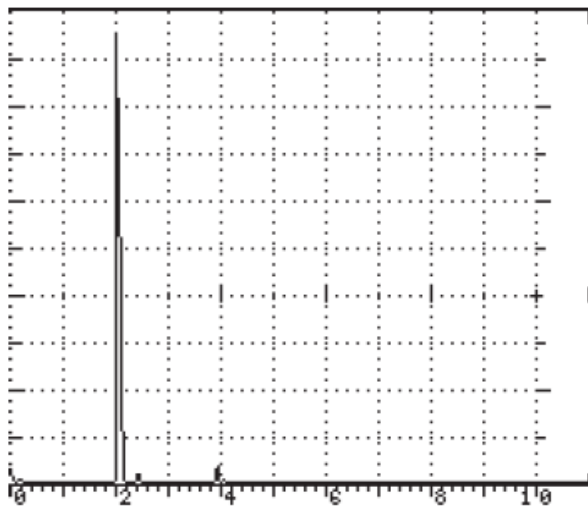

Figure 5-38: IIW Type 2 Block Echoes
IIW Type 2 Block: Line 2 (2 inches). See first echo in *Figure 5-38*.
- IIW Type 2: Line 4 (4 inch). See second echo in **Figure 5-38**.